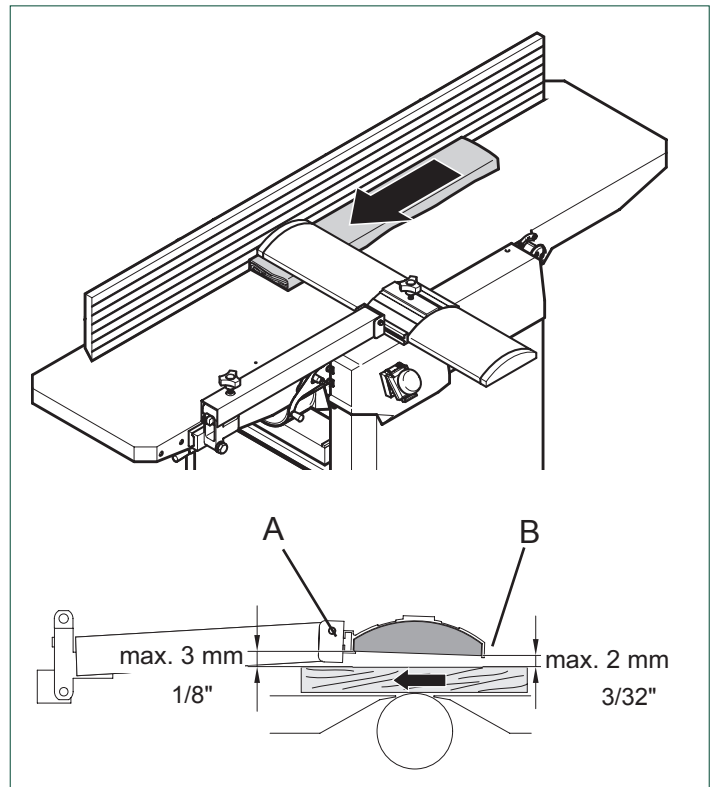

FIG. 34
- The workpiece will be cut on its underside by the rotating cutterhead knives. FIG. 34.
5. Adjust the cutterhead guard for user protection. FIG. 34 and 35.
- For planing the face of a plank or workpieces up to 3" thick, lower the cutterhead guard to just above the workpiece. Adjust the guard to distances not exceeding the dimensions recommended below, and in FIG. 34:
- Rear edge (A) – workpiece maximum 1/8" (3mm).
- Front edge (B) – workpiece maximum 3/32" (2mm).